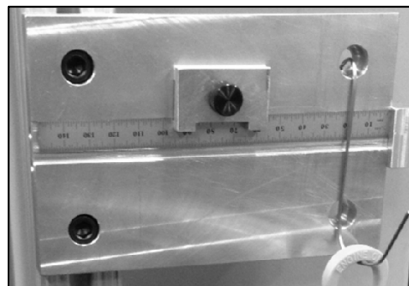

Figure 5 - Dipstick Measurement Block
12.5.5. **NOTE:** Use the dipstick measurement block for all oil level measurements (Figure 5):